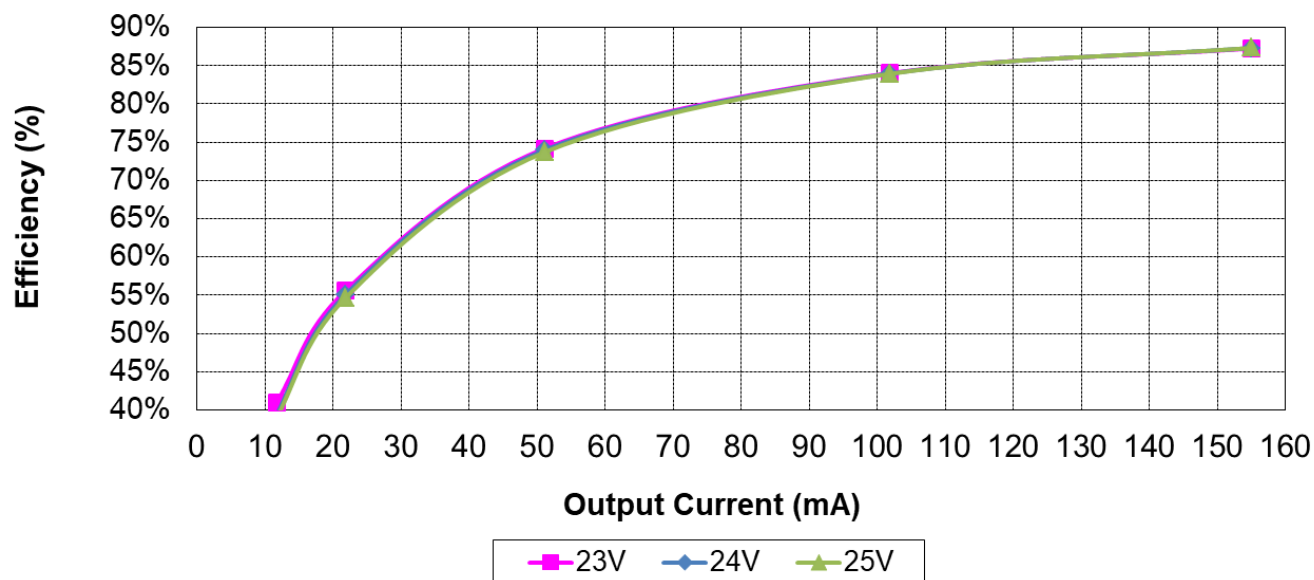

Figure 2-1. 24 V_{IN} to 12 V_{OUT} Version
The efficiency graphs, versus output current, are shown in Figure 2-1 through Figure 2-4. Four different versions were built: (1) 24 V_{IN} to 12 V_{OUT}, (2) 24 V_{IN} to 6 V_{OUT}, (3) 3.8 V_{IN} to 12 V_{OUT}, (4) 3.8 V_{IN} to 6 V_{OUT}.